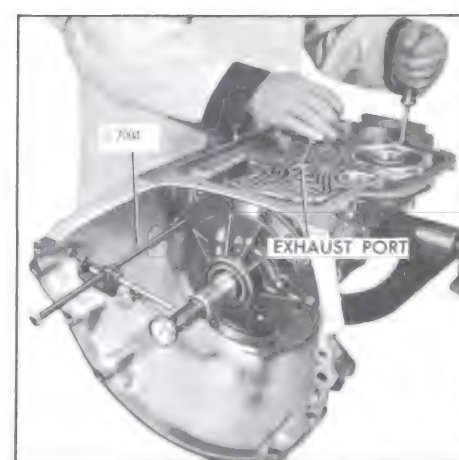

Figure 5-706
23. Check front unit end play as follows. See Figure 5-706.